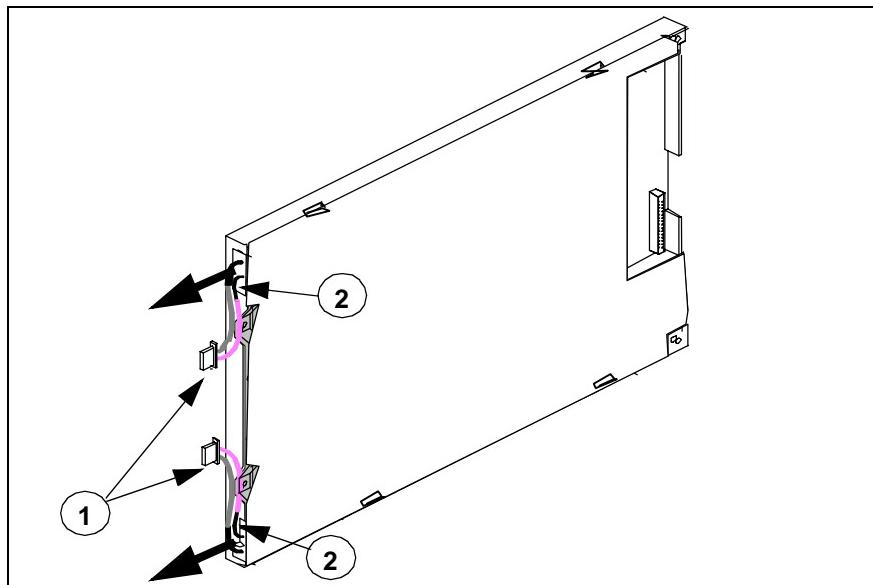

Figure 3-13 Display Screen Subassembly
- Backlight Lamps (see Figure 3-13 on page 54)
- 5) Unplug backlight connectors (1) in Figure 3-13 on page 54) from front bezel PC board, and lift subassembly out of frame.
- 6) Using very small screwdriver, depress black nub on latch of each backlight lamp holder (located at (2) in Figure 3-13) to release latch, and draw backlight lamps out of display screen subassembly in direction of heavy arrows in Figure 3-13.